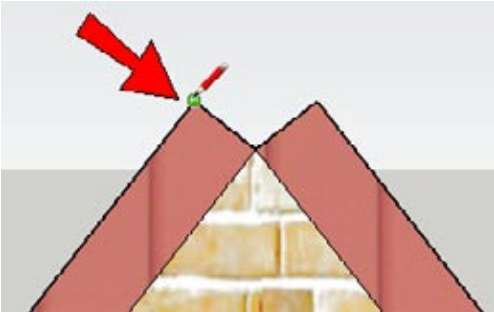

Figure 5-4
4. The first method of closing the gap is to add lines. Start a line at the point indicated in Figure 5-4.